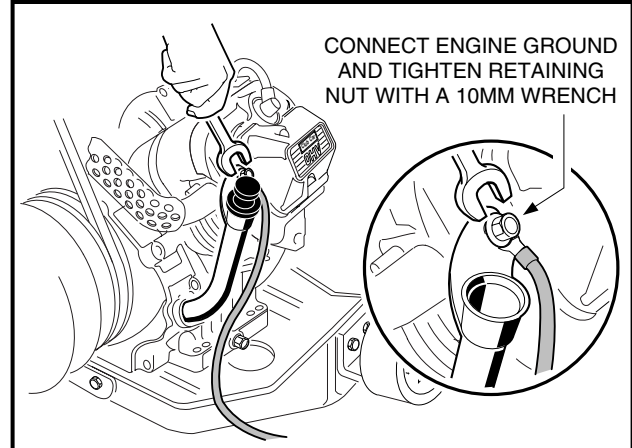

FIGURE 10-99
21. Attach the ground cable to the mounting screw on the oil filler tube mounting bracket on the engine cylinder head (**Figure 10-99, Page 70**). Tighten with a 10 mm wrench.